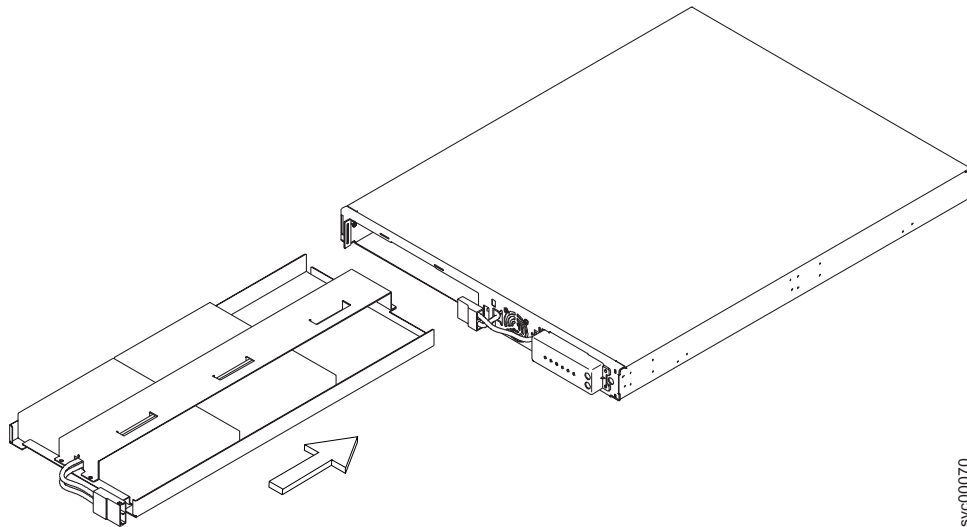

Figure 251. Replacing the 2145 UPS-1U battery
1. Slide the battery into the 2145 UPS-1U, as shown in Figure 251.